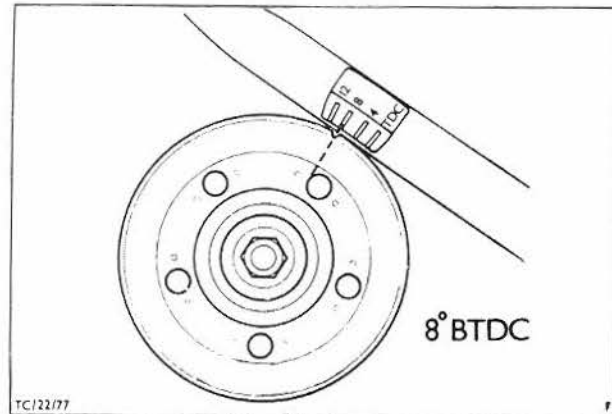

Fig. 73. Timing marks (1.6 2V engine).
18. With engine at normal running temperature, adjust dwell angle, timing, Fig. 73, idling speed and CO content. (As detailed in sections 22 and 23).